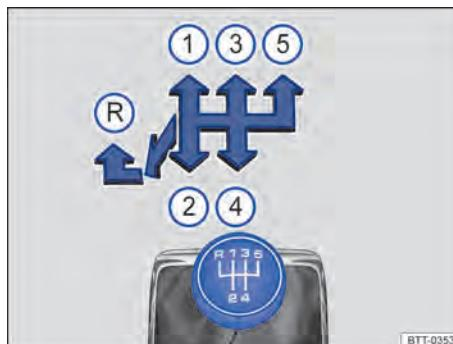

Fig. 83 Gear shift pattern of a 5-speed manual gearbox.
Each gear's positions are illustrated in the gear lever → Fig. 83.
- Push the gear lever fully to the left and then to the front in the reverse gear position → Fig. 83 **(R)**.